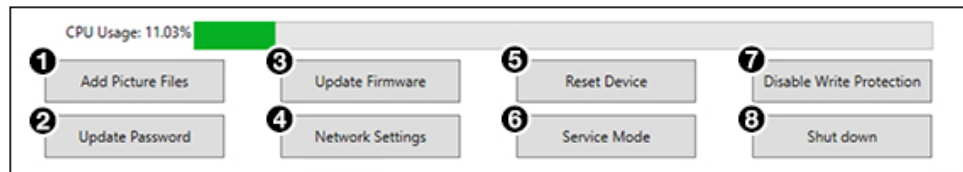
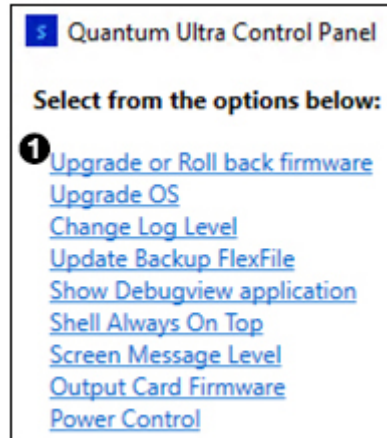
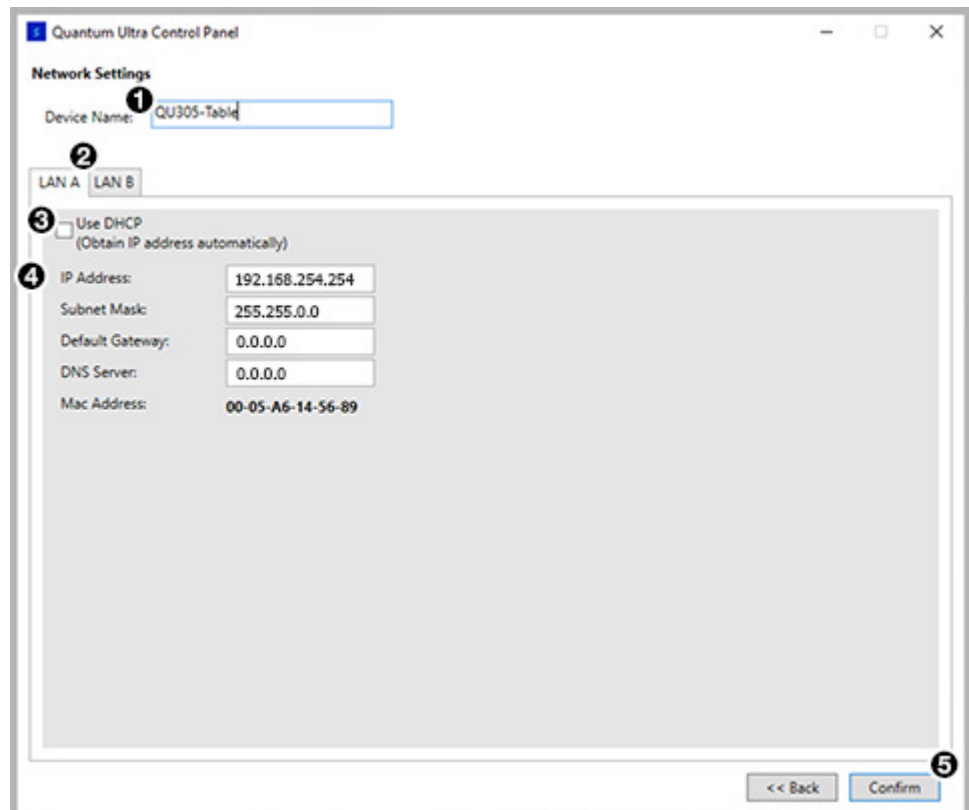

Figure 47. Buttons on the Control Panel
Figure 55. Selecting Upgrade or Roll Back Firmware
Figure 60. Network Settings for LAN A Port
The following buttons give you access to set up and manage the Quantum Ultra via the Control Panel (see figure 47).
2. On the Quantum Ultra Control Panel window, click **Add Picture Files** (see figure 47, **1**).
1. Click the **Update Password** button on the **Control Panel** window (see figure 47, ② on page 52). The unit may restart to disable write protection before proceeding with the next step.
3. On the **Control Panel** window, click the **Service Mode** button (see figure 47, ⑥ on page 52).
5. On the **Control Panel** window, click the **Update Firmware** button (③).
6. On the Firmware Options screen, click **Upgrade or Roll back firmware** (see figure 55, ❶).
1. On the **Control Panel** window, click the **Network Settings** button (see figure 47, ④ on page 52). The **Network Settings** window opens (see figure 60).
2. If desired, enter a name of 1 to 15 characters for your Quantum Ultra Series processor in the **Device Name** field (see figure 60, **1** on the previous page). Only letters, numbers, and the hyphen (-) can be used in this name.